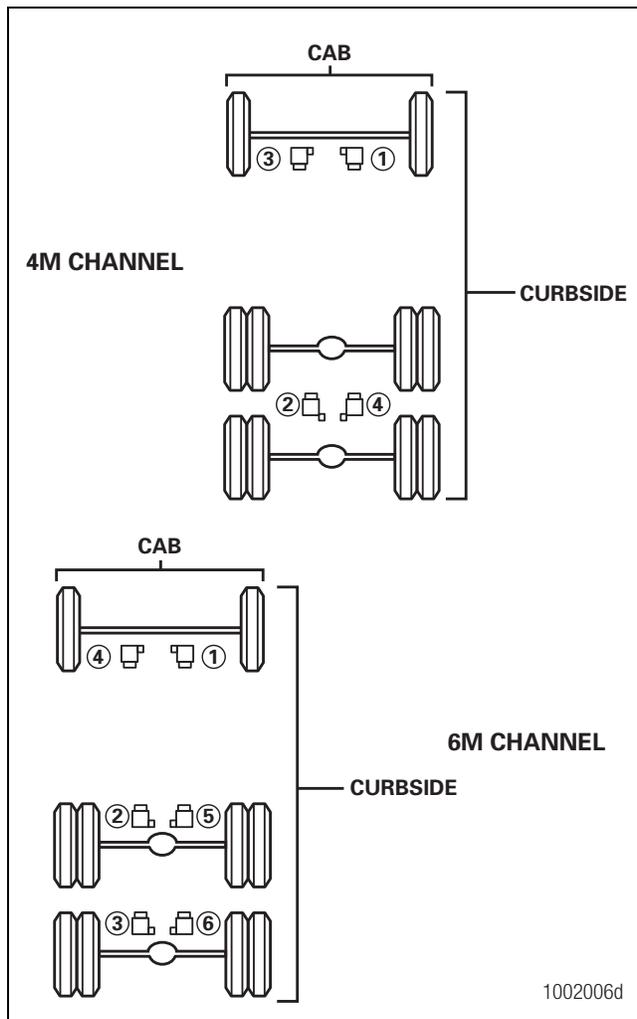

Figure 1.7
To ensure the ABS valves are working — just listen! Figure 1.7.
3. Listen for the valves to click or puff/chuff air in the order shown in Figure 1.7.